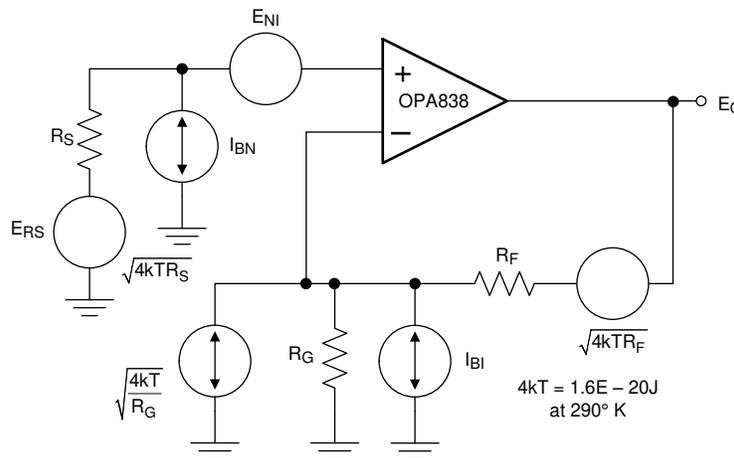
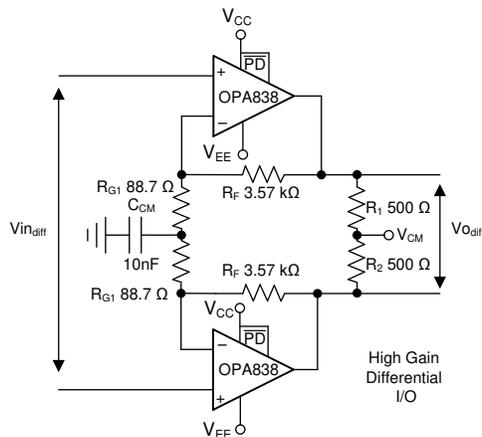

图 9-3. Op-Amp Noise-Analysis Model
图 9-4. High-Gain Differential I/O Stage
The decompensated voltage feedback of the OPA838 op amp offers among the lowest input voltage and current noise terms for any device with a supply current less than 1 mA. 图 9-3 shows the op amp noise analysis model that includes all noise terms. In this model, all the noise terms are shown as noise voltage or current density terms in nV/√Hz or pA/√Hz.
The total output spot noise voltage is computed as the square root of the squared contributing terms to the output noise voltage. This computation is adding all the contributing noise powers at the output by superposition, then taking the square root to return to a spot noise voltage. 方程式 3 shows the general form for this output noise voltage using the terms presented in 图 9-3.
A high-gain differential-to-differential I/O circuit can be used to drive a second-stage FDA or a differential-to-single-ended stage. This circuit is frequently used in applications where high input impedance is required (for example, if the source cannot be loaded). 图 9-3 illustrates an example design where the differential gain is 41 V/V. An added element between the two  $R_G$  resistors increases the noise gain for the common-mode feedback. Make sure to provision for the added element; otherwise, a decompensated VFA (such as the OPA838) often oscillates. With only the  $R_G$  elements in the differential I/O design, the common-mode feedback is unity-gain and often causes high-frequency, common-mode oscillations. To resolve this issue, split the  $R_G$  elements in half and add a low-impedance path, such as a capacitor or a DC reference, between the two  $R_G$  values.
As an example design, start with the circuit in 图 9-4.
- Assess the DC common-mode biasing on the noninverting inputs. The DC biasing must be in range and have a gain of 1 to the output. This is not illustrated in 图 9-3.
- If a DC reference is used as the mid- $R_G$  bias, setting the reference equal to the noninverting input bias voltage sets the output common-mode to that voltage. Using a capacitor as illustrated in 图 9-3 accomplishes the same results.
- Set the total  $R_G$  value near the high gain values using 表 9-1. This 178- $\Omega$  total must be split for a center tap to increase the common-mode noise gain, as shown by the 88.7- $\Omega$  value in 图 9-4.
The common-mode loop instability without the  $R_G$  center tap is not often apparent in the closed-loop differential simulations. The common-mode loop instability without the  $R_G$  center tap can often be detected in a common-mode output-noise simulation as 图 9-5 shows. Grounding the inputs 图 9-4 and running an output-noise simulation for the common-mode tap point in 图 9-3 shows a peaking in the noise at high frequency. This peaking indicates low-phase margin for the common-mode loop. 图 9-5 shows this peaking in the lowest noise curve, with two options for improving phase margin. The first option used in 图 9-4 is a capacitor to ground set to increase the common-mode noise gain only at higher frequencies. This increase can be seen by the peaking in the common-mode noise of 图 9-5. Another alternative is to provide a dc voltage reference on the  $R_G$  center tap. This method raises the common-mode noise gain from dc and beyond. Neither of these latter two options show any evidence of low phase-margin peaking. These two options do increase the output common-mode noise significantly at lower frequencies. Typically, an increase in output common-mode noise is more acceptable than low-phase margin because the next stage (FDA, ADC, differential to single stage) rejects common-mode noise.